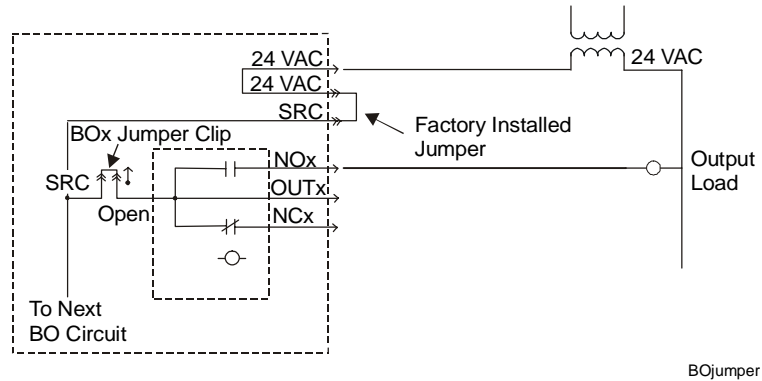

Figure 4: Typical BO Connections
Each **Binary Output (BO)** has both isolated normally open and normally closed contacts available at the terminal. The common point of each relay may be independently jumpered to the SRC terminal, or wired to an external isolated supply. Place the jumper clip to the SRC (right) position to connect the Relay Common (OUTx) to the SRC signal. When the jumper clip is placed in the open (left) position, the relay common must be externally supplied. See Figure 4 for typical binary output connections.